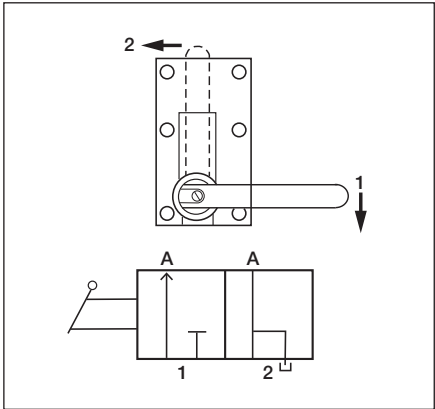

Figure 7
- 1. Shift valve handle to position 1 as shown in Figure 7.